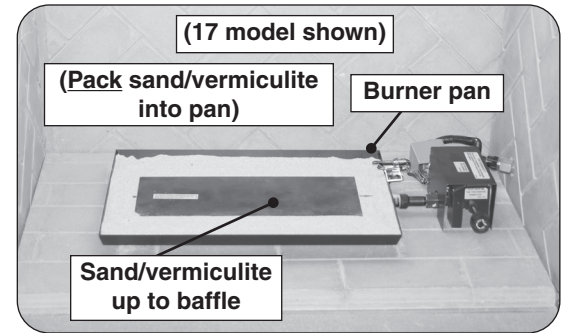

Fig. 21-1 Place sand/vermiculite
1. Partially fill the burner pan with the sand/vermiculite until it rests just below the center flame baffle as shown in Fig. 21-1.